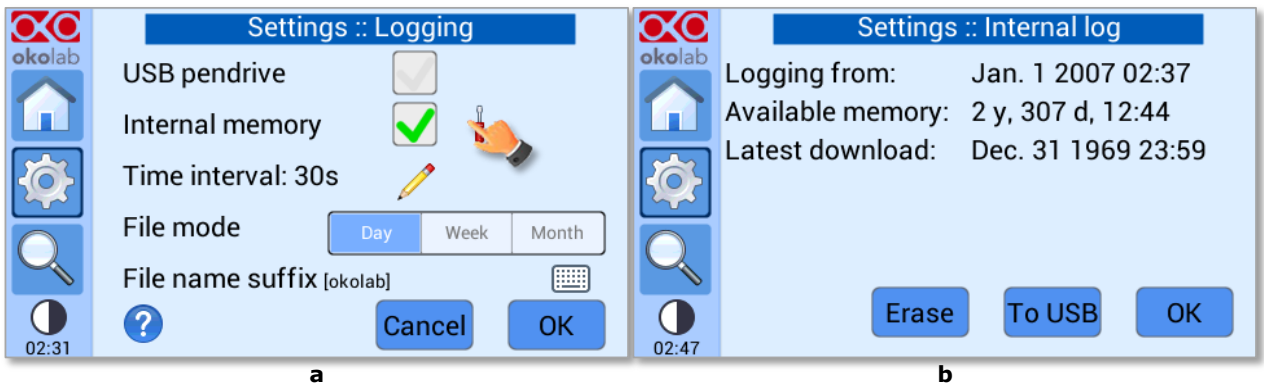

Figure 55. Internal memory status. (a) Logging page settings; (b) Internal log page settings
**Note** ► If you press on the screwdriver , see Figure 55(a) you can view the logging starting date, the available memory and the latest download, see Figure 55(b).
To download the data, press on *To USB* or on *Erase* if you want to delete them, see Figure 55(b).